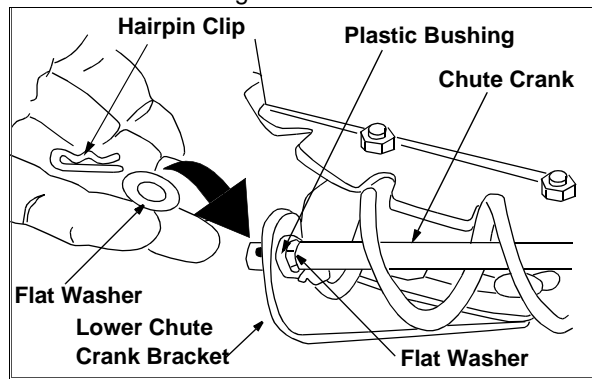

Figure 7
- Place one 3/8 ID flat washer (from group G of the hardware pack) on the end of the chute crank, then insert the end of the crank into the eye hole in the plastic bushing in the chute crank bracket. See Figure 7.
- Place the other 3/8 ID flat washer (from the same group of hardware) on the end of the chute crank and insert hairpin clip into eye hole at the end of the chute crank. See Figure 7.